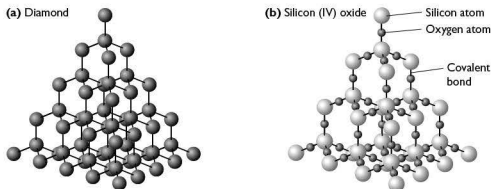

Figure 4.7 Structure of (a) diamond and (b) silicon(IV) oxide
The two diagrams in Figure 4.7 show the structures of diamond and silicon(IV) oxide. By looking at the two structures and knowing the properties of diamond, you should be able to predict properties of silicon(IV) oxide.